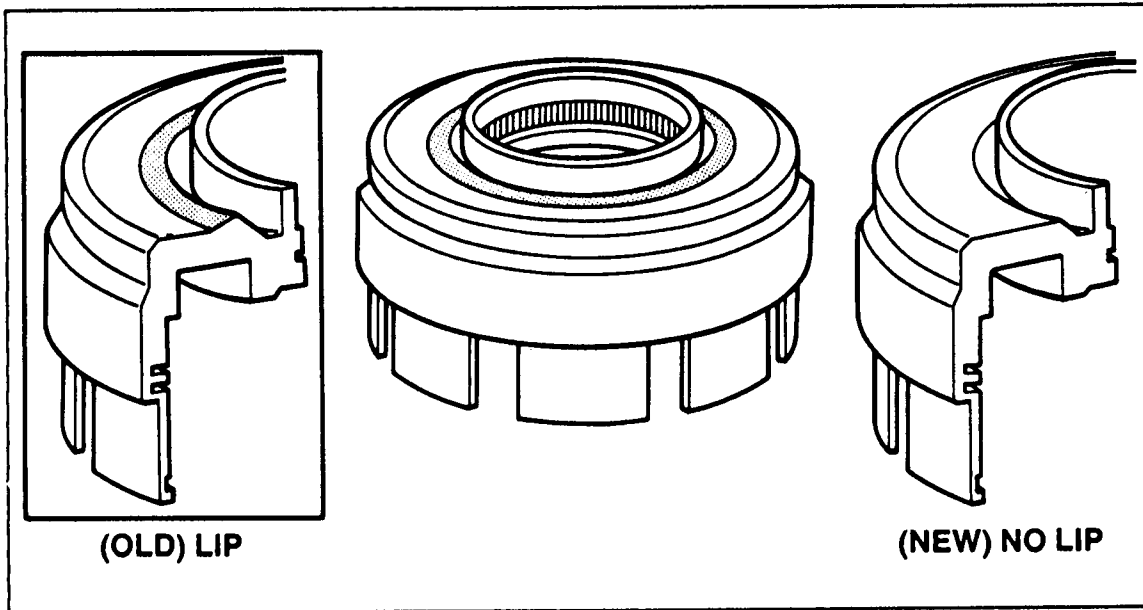

Figure 3
- (4) INPUT CLUTCH RETAINER - The Input Clutch Retainer was modified, by machining off the "Lip" (See Figure 3), to allow more travel of the overdrive/reverse piston. The old Input Clutch Retainer can be machined at the local machine shop if necessary.